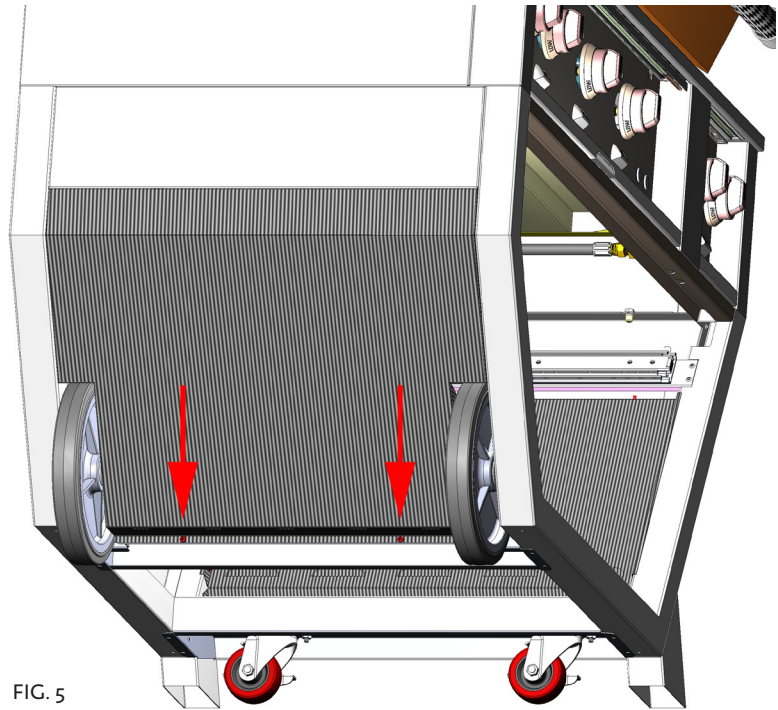

FIG. 5
5. Remove the last 2 screws at the left-bottom of the cart as shown in Fig. 5. Panel should come off by pushing from the inside toward the exterior of the unit.